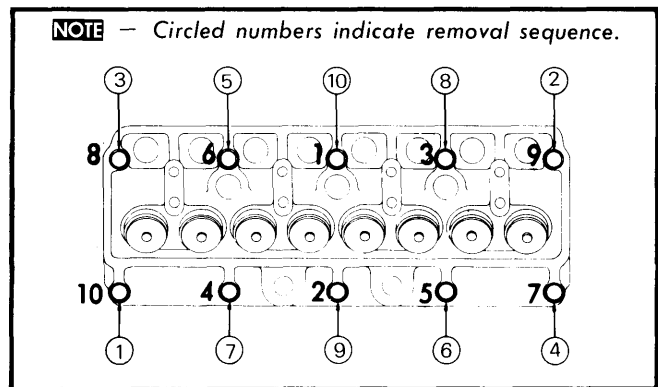

Fig. 1 Tighten Cylinder Head in Sequence Shown (Remove in Reverse Order ① Through ⑩)
2) Loosen rocker arm support bolts in 3 or 4 steps and remove shaft assembly. Remove push rods and keep in order for reassembly in original positions. Disconnect spark plug wires. Loosen and remove head bolts in 2 or 3 steps in the sequence shown in Fig. 1. Lift head from engine.
Installation — Ensure that mating surfaces are clean, then install new gasket with "front" side facing up. Continue assembly in reverse order of removal. Tighten head bolts gradually in 2 or 3 steps as shown in Fig. 1. Install push rods and rocker shaft assembly, then adjust valves.